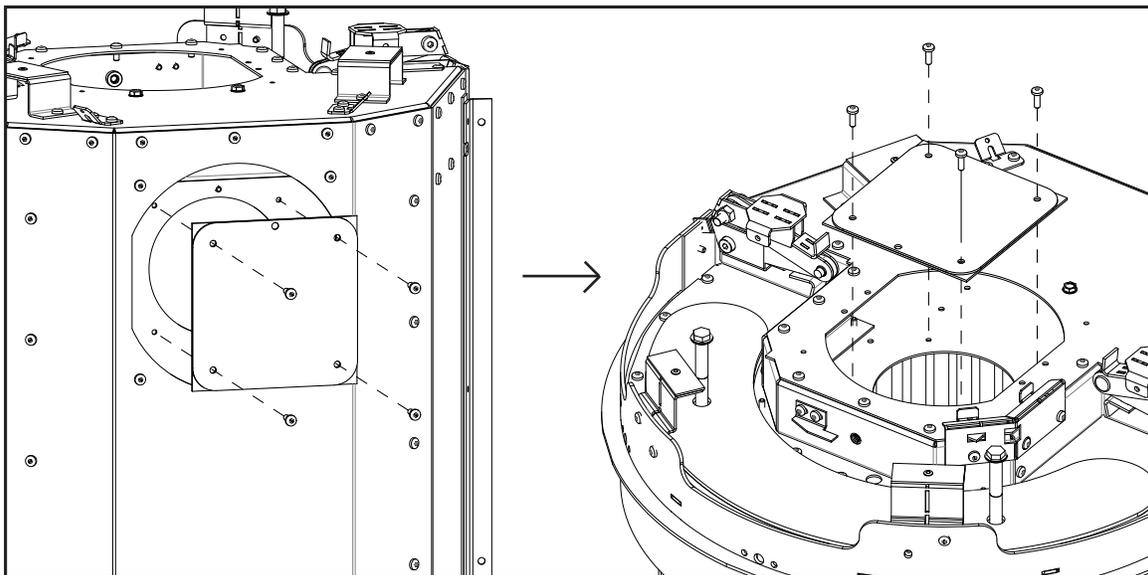

Figure 65: Inner Block-Off Plate Removal and Attachment
9. Remove the outer and inner block-off plates from the back of the unit and attach them to the top of the unit where the exhaust spigot and vent collar were attached (see Figure 65).